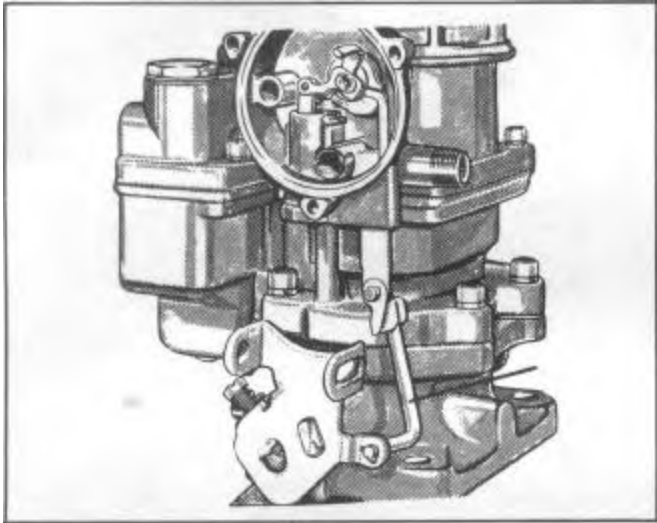

FIGURE 89
25. Install the fast idle link, choke connector rod and retainer clip, Figure 89.